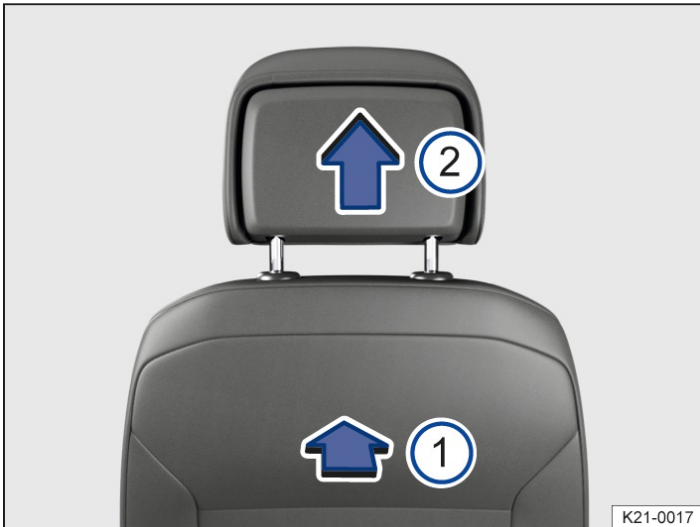

Fig. 1 Removing a front head restraint (illustration).
2. To release the head restraint, feel for the recess in the marked area → Fig. 1 ¹ on the rear side, press in and hold in the direction of the arrow.
3. Pull the head restraint out in the direction of the arrow → Fig. 1 ².